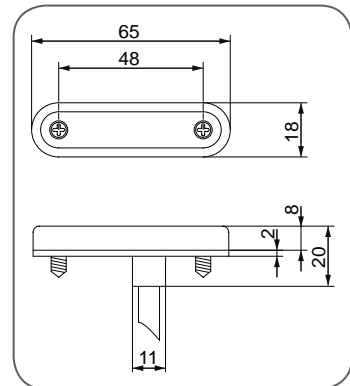

Fig. 12 - Indicator lamp
1. Assemble the indicator lamp see ► Fig. 12 in the driver's rearward field of vision.